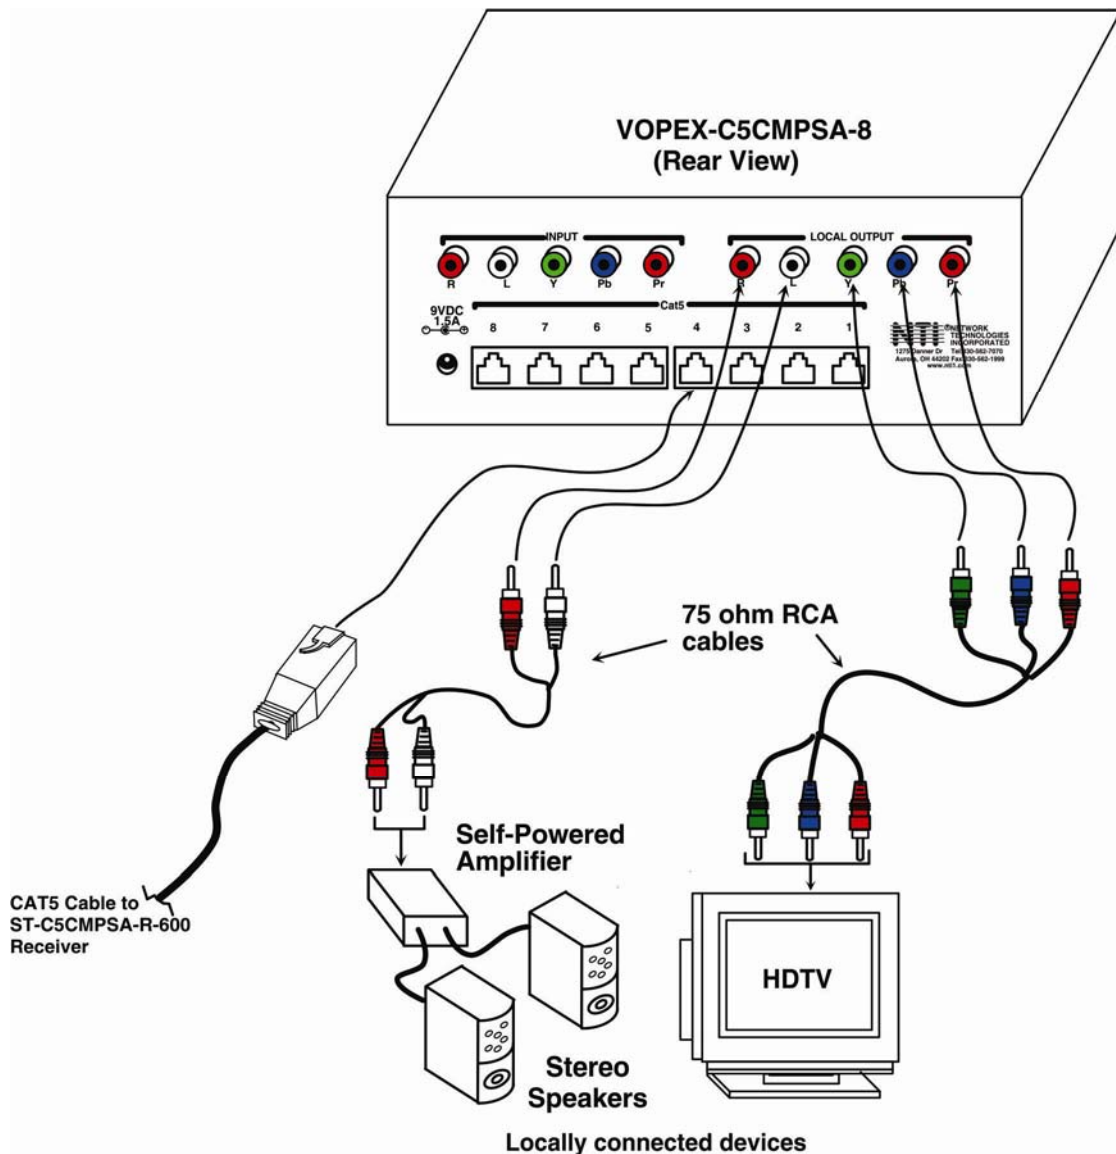

Figure 6- Connect local HDTV and stereo speakers
2. Connect the local user to the VOPEX-C5CMPSA-x (see Fig. 6)
3. Connect a CAT5 cable to any one of the "Cat5x" ports on the VOPEX-C5CMPSA-x. (See Fig. 6) When properly inserted the cable end should snap into place.